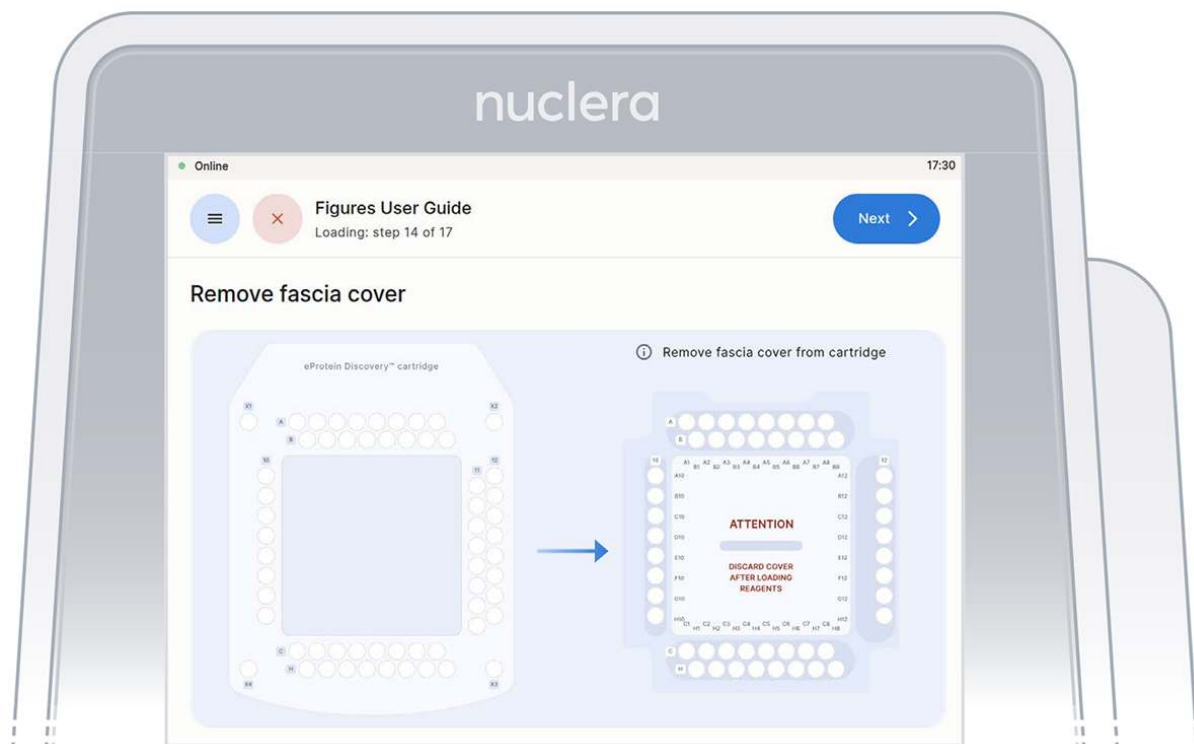

Figure 23: Remove the cover from the cartridge
5. Remove the cover from the cartridge (Figure 23)